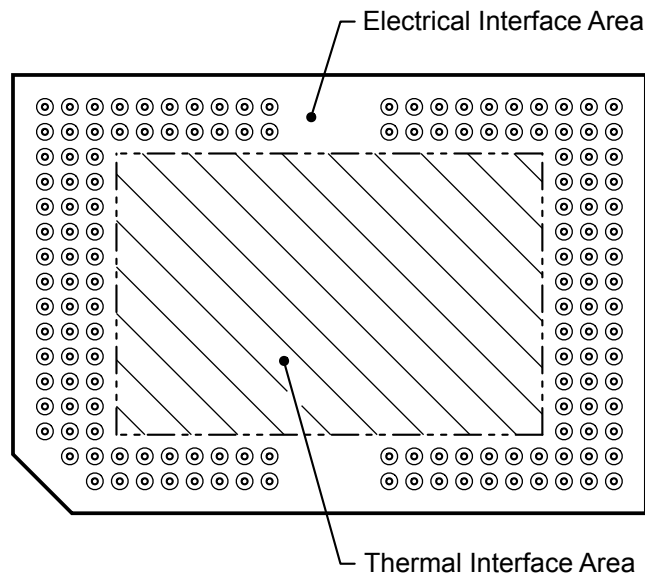

Figure 6-14. System Mounting Interface Loads
(1) The load should be applied uniformly in the corresponding areas shown in Figure 6-14.